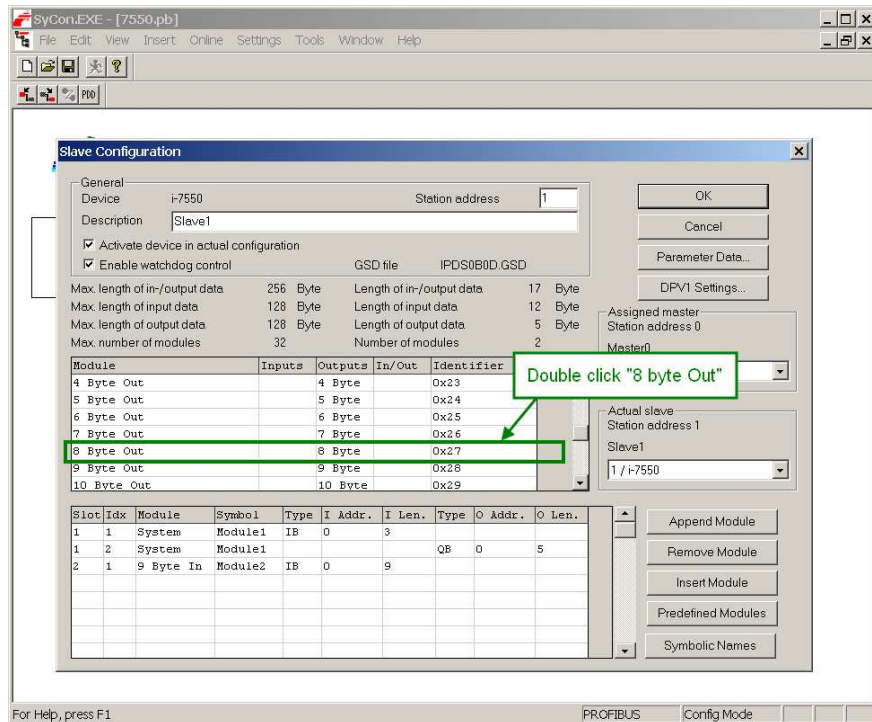

Figure 214: Select an output length of 8 bytes
- Select the output length: Here the length is set to 8 bytes (*Figure 214*)